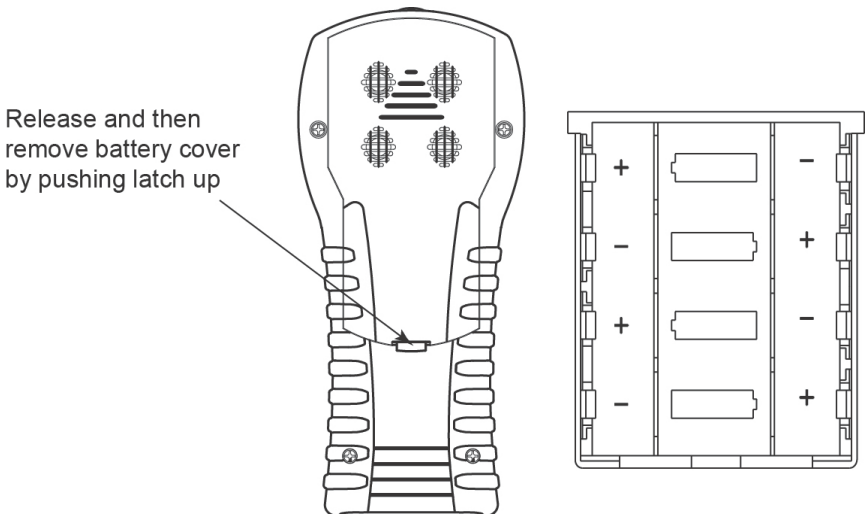

Figure 3-1. Battery Cover and Compartment
- Remove the battery cover from back of unit (Figure 3-1).